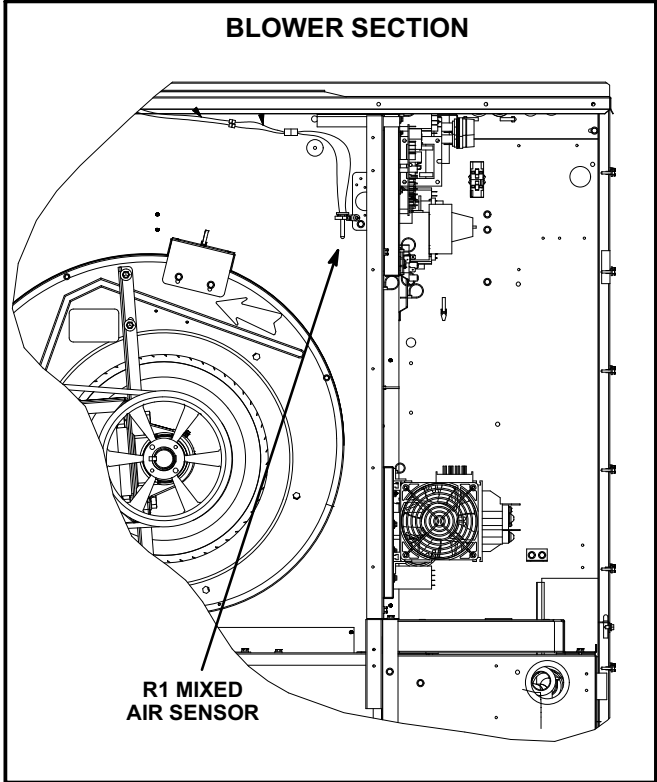

FIGURE 12
- 2- Install sensor on bracket as shown in figure 12 and 13.